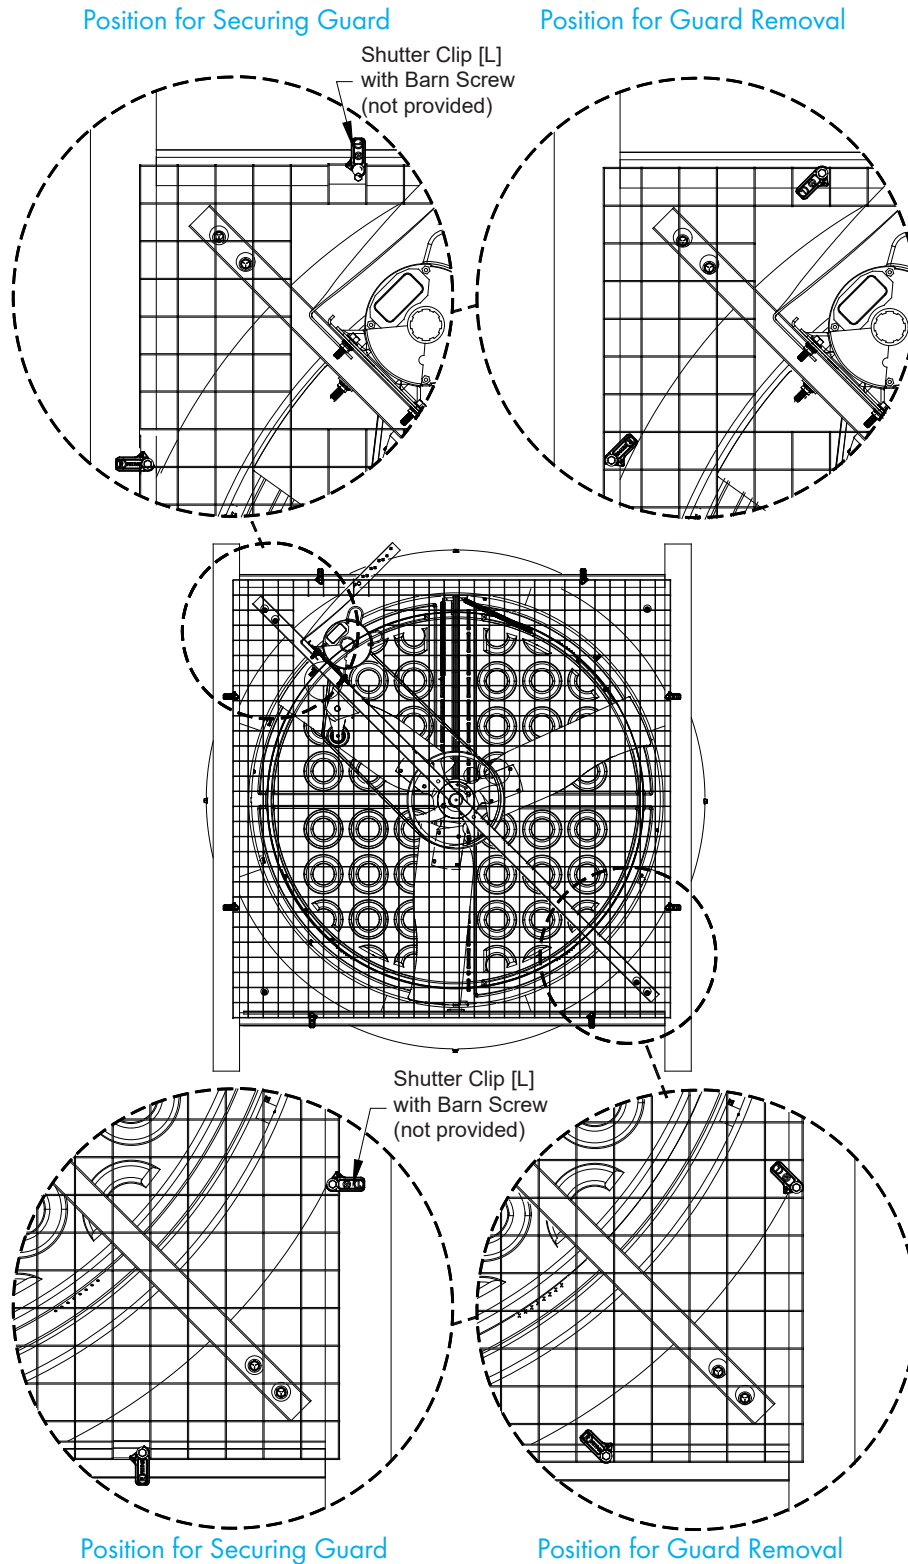

Figure 20B
Place guard against framing and fasten guard in place using (8) Shutter Clips [L] and Barn Screws (not provided), 2 per side. See Figure 20B.